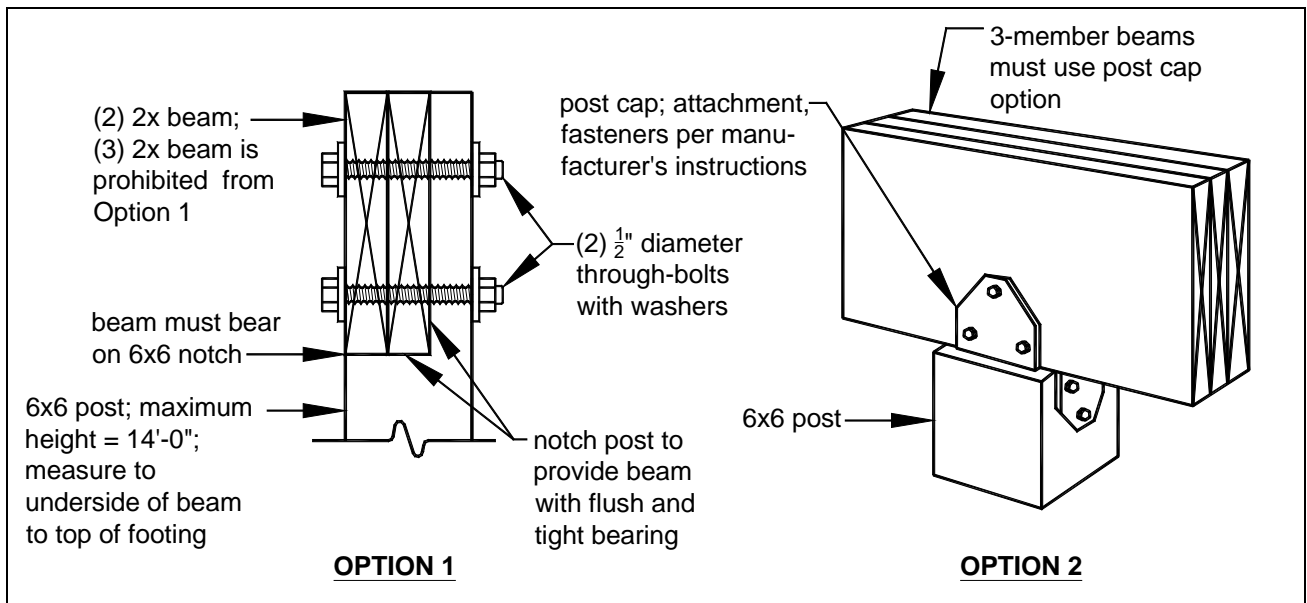

FIGURE 10: POST-TO-BEAM CONNECTION OPTIONS
All deck posts shall be 6x6 with a maximum height of 14'-0" measured from the top of the footing to the underside of the beam. The beam shall be attached to the post by one of the two methods shown in FIGURE 10. Attachment of the beam to the side of the post without notching is prohibited; see FIGURE 9
The post cap shown in FIGURE 10, Option 2, shall be specifically designed for (2) 2x or (3) 2x beams and 6x6 posts with a minimum downward allowable load capacity of 5,000 lbs. Attachment shall be per manufacturer's instructions. Post caps shall be galvanized per the requirements on Sheet 2.